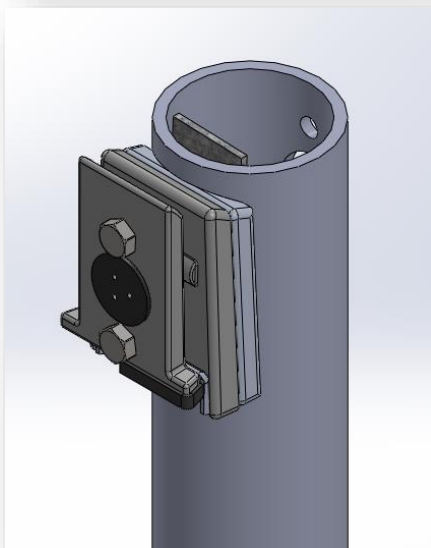

Fig.3
- Attach cleat assembly to pole (leave very loose) with the two hex head bolts attached to cleat assembly. Hook attached to cleat assembly must be at bottom (Fig. 3).